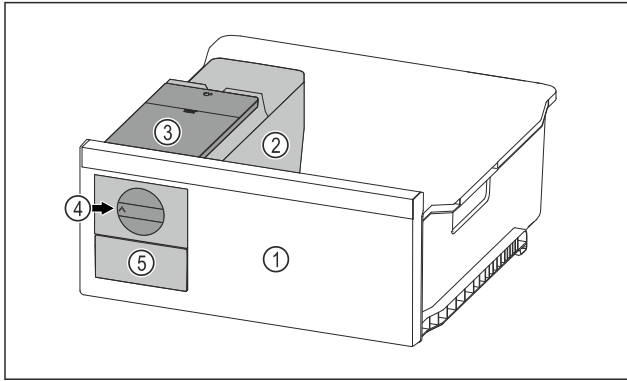

Fig. 102 Example illustration
- ▶ Turn the rotary knob *Fig. 102 (4)* clockwise as far as it will go.
- ▶ Ice cubes fall from the ice cube tray into the ice cube drawer *Fig. 102 (5)*.